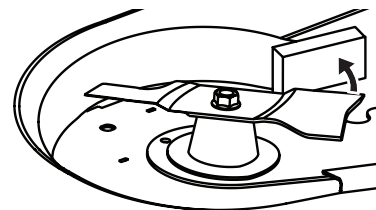

Figure 55
1. Secure the blade from turning counter-clockwise during service by placing a block of wood between the blade and the deck housing (Figure 55), or wrap a rag around one end of the blade and wear heavy gloves to grasp the blade firmly.